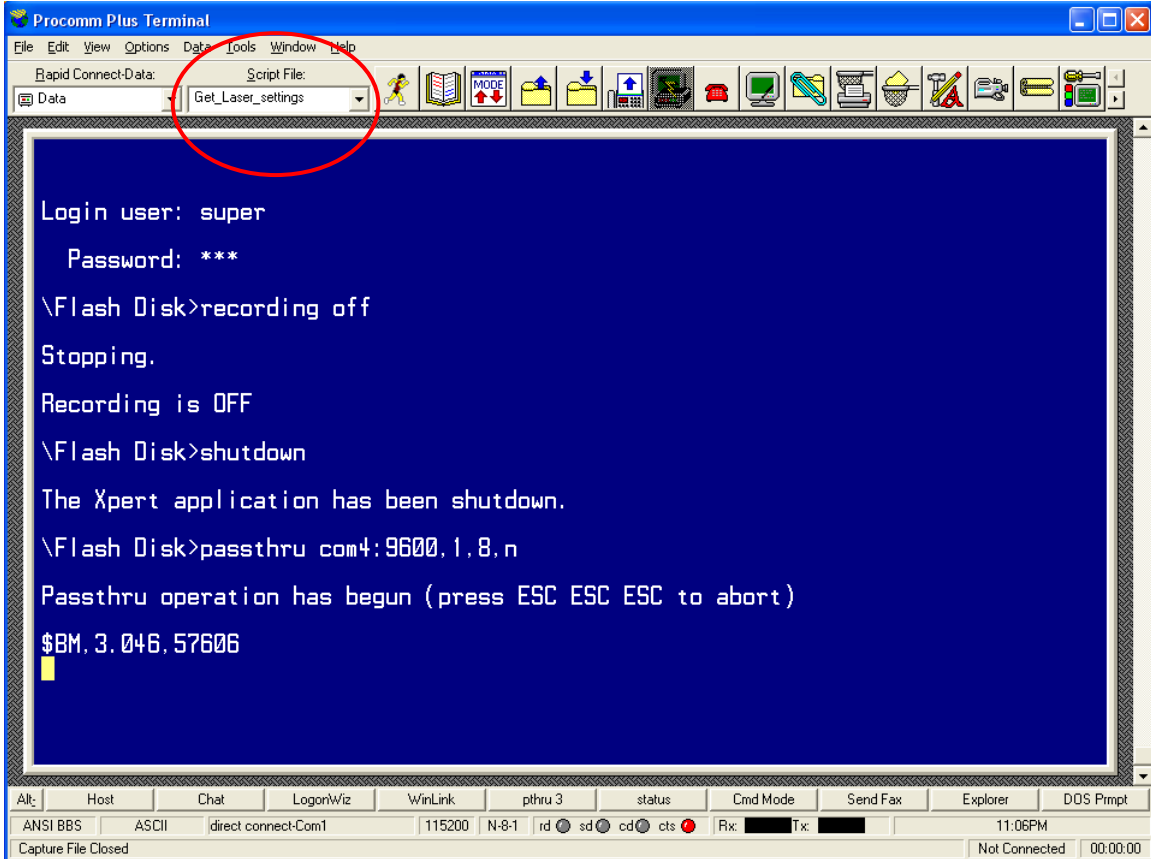

Figure 22
5. Using the mouse, select the **Get_Laser_settings** script from the **Script File** drop-down menu as shown in fig. 22.